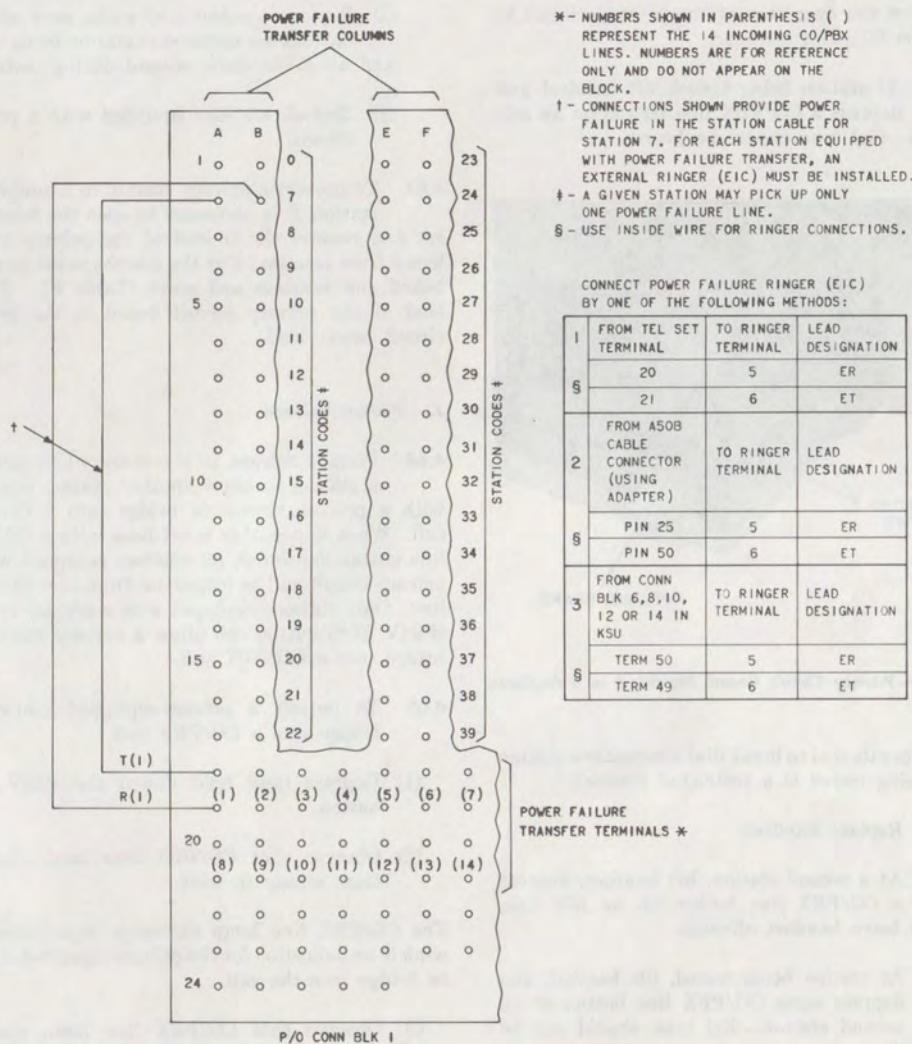

Fig. 35—Connections for Power Failure Ringing
4.59 Where power failure ringing is provided, a power failure ringer (E1C-type) must be installed near the telephone sets designated to answer incoming calls in the event of a power failure. Connections (Fig. 35) may be made by one of the following methods:
4.61 The tip and ring of each CO/PBX line is brought out on connecting block 1, rows 18 (tip) and 19 (ring) for lines 1 through 7 and rows 20 (tip) and 21 (ring) for lines 8 through 14 (Fig. 35). To connect a CO/PBX line to a selected station, run a strap from the CO/PBX line terminals (in rows 18 and 19 or 20 and 21) to the station terminals in columns A (tip) and B (ring) for station codes 0 and 7 through 22, or columns E (tip) and F (ring) for station codes 23 through 39. For example, Fig. 35 shows CO/PBX line 1 connected to station code 7. An E1C ringer must be installed near the station connected for power failure ringing. See Fig. 35 for connections.